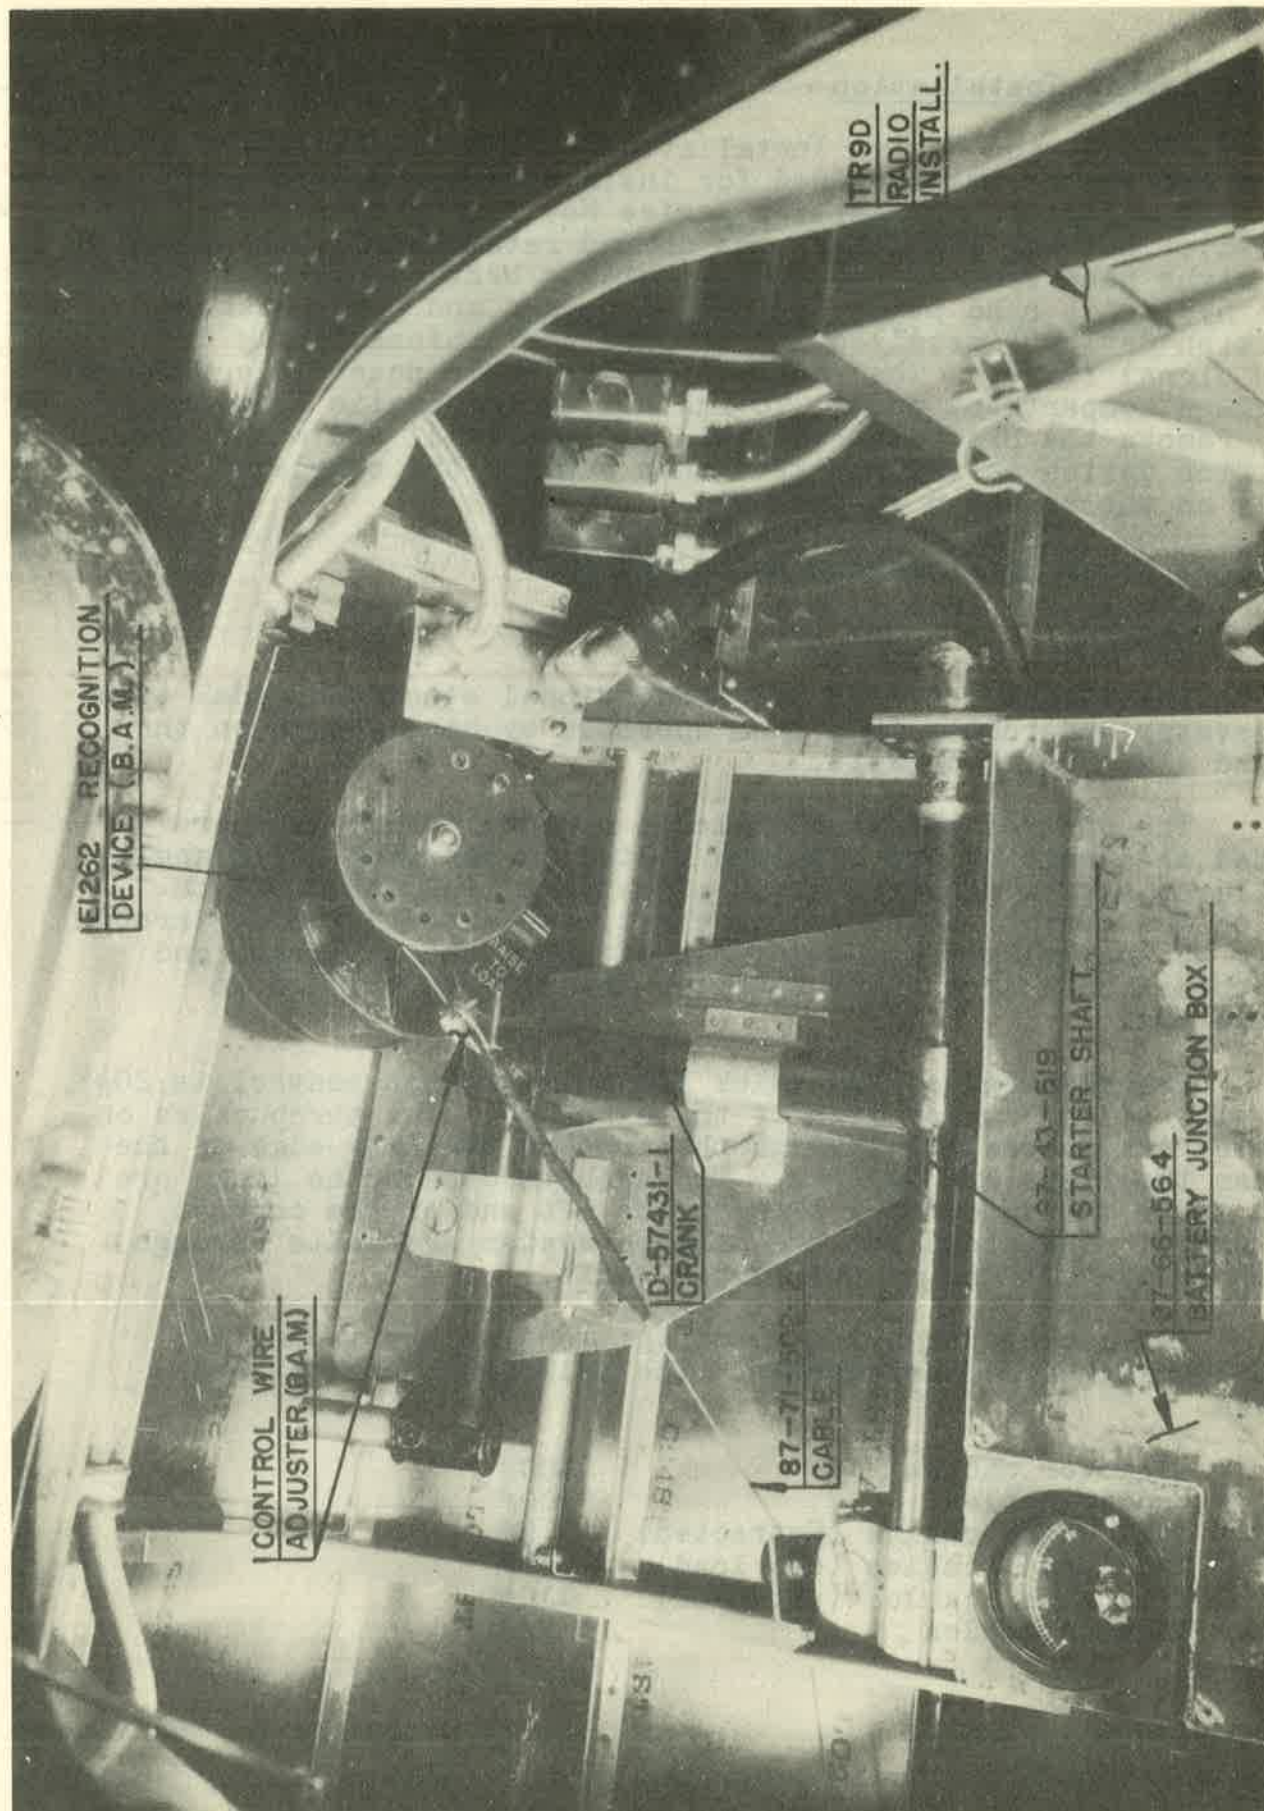

FIG. 102 AUTOMATIC RECOGNITION DEVICE INSTALLATION
1. Recognition Device Installation 4 or 6 flares (87-71-502) Brackets and cables are provided for installing the damped rate control and automatic recognition device No. E-1262 (customer furnished). See Fig.102. When the damped rate control, installed on the right hand side of the cockpit with a bracket assembly between the two hydraulic hand pumps, is pulled upward and then released the recognition device (installed in the fuselage) automatically discharges signal flares. The recognition device is accessible through the baggage compartment door. To install the automatic recognition device, remove the brackets 87-71-512 and 87-71-511 and mount the recognition device on the brackets then replace the completed assembly on the bulkhead at Sta. #10.